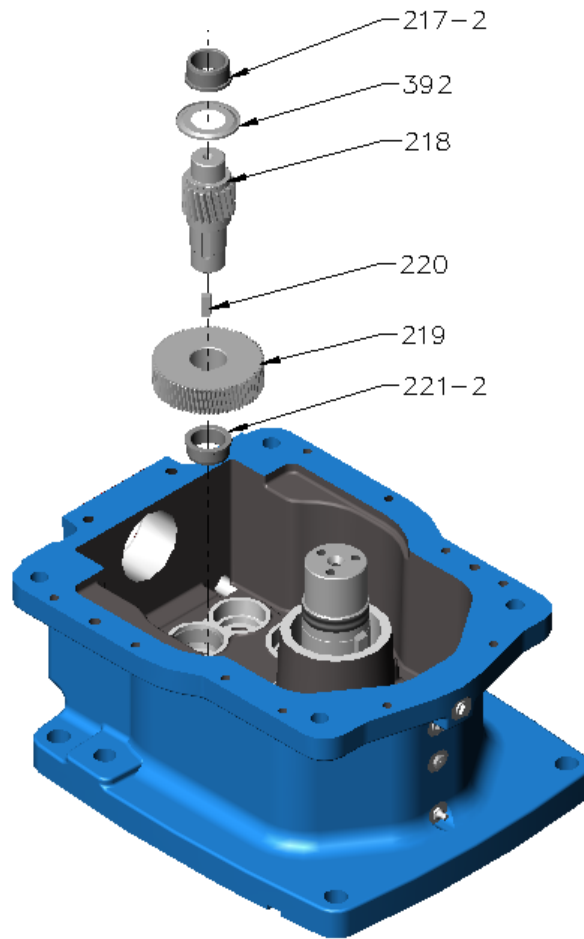

Figure 17 – Second Intermediate shaft
- F. Second intermediate shaft assembly (refer Figure 17)
- G. Install second intermediate shaft [218] assembly in the bearing outer race [221-1] in the case bottom (refer Figure 17).